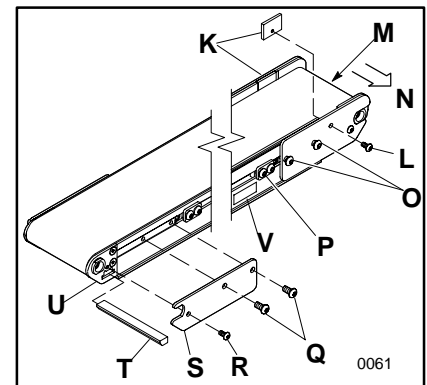

Figure 10
If you are working on a high-side conveyor, remove filler plate (K of Figure 10), from each side of the conveyor, by removing screw (L).
Refer to Figure 10 on page 5 and replace the bottom wiper (T) through hole in pulley plate (U). Replace the tail cover plate screws (Q and R) on the side of the conveyor that the wiper was removed from; tightly secure screw (R) but leave the screws (Q) loose for now.
If you are working on a high side conveyor, replace the filler plates following procedures associated with Figure 10 on page 5.